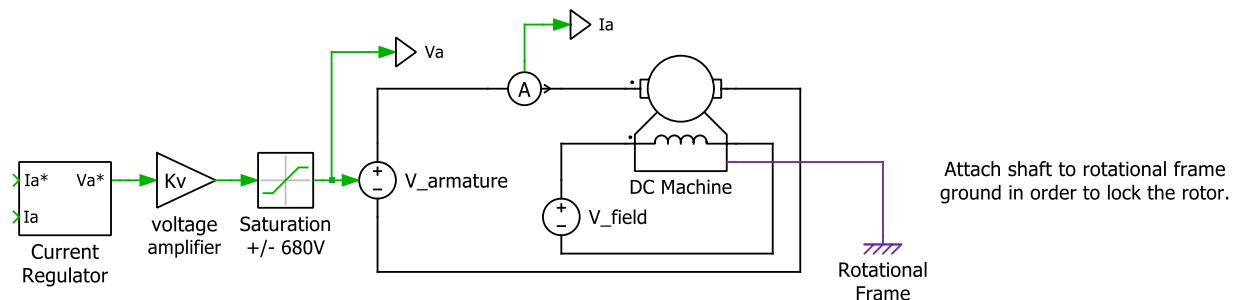

Figure 1: Implementation of Locked Rotor DC Motor in PLECS
- Given the two different DC motors from HW1, determine the values of K_p and K_i to yield a 1000 Hz bandwidth at locked rotor (zero speed). Assume that there is a voltage amplifier gain $K_v = 680 \frac{V}{V}$. See figure 1. Note: the current regulator gain formula in the notes don't assume there is a voltage amplifier gain so you will need to account for this additional gain when calculating the values of K_p and K_i .
- Implement proportional plus integral (PI) control in PLECS.